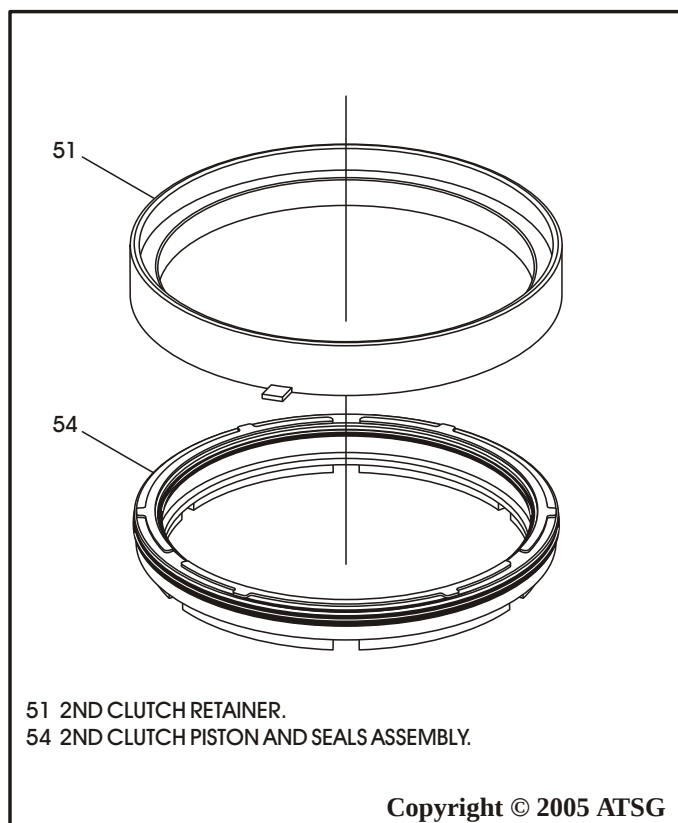

Figure 107
6. Lube the inside seal surfaces of the retainer with a small amount of Trans-Jel® and install the piston assembly into the retainer, as shown in Figure 107.